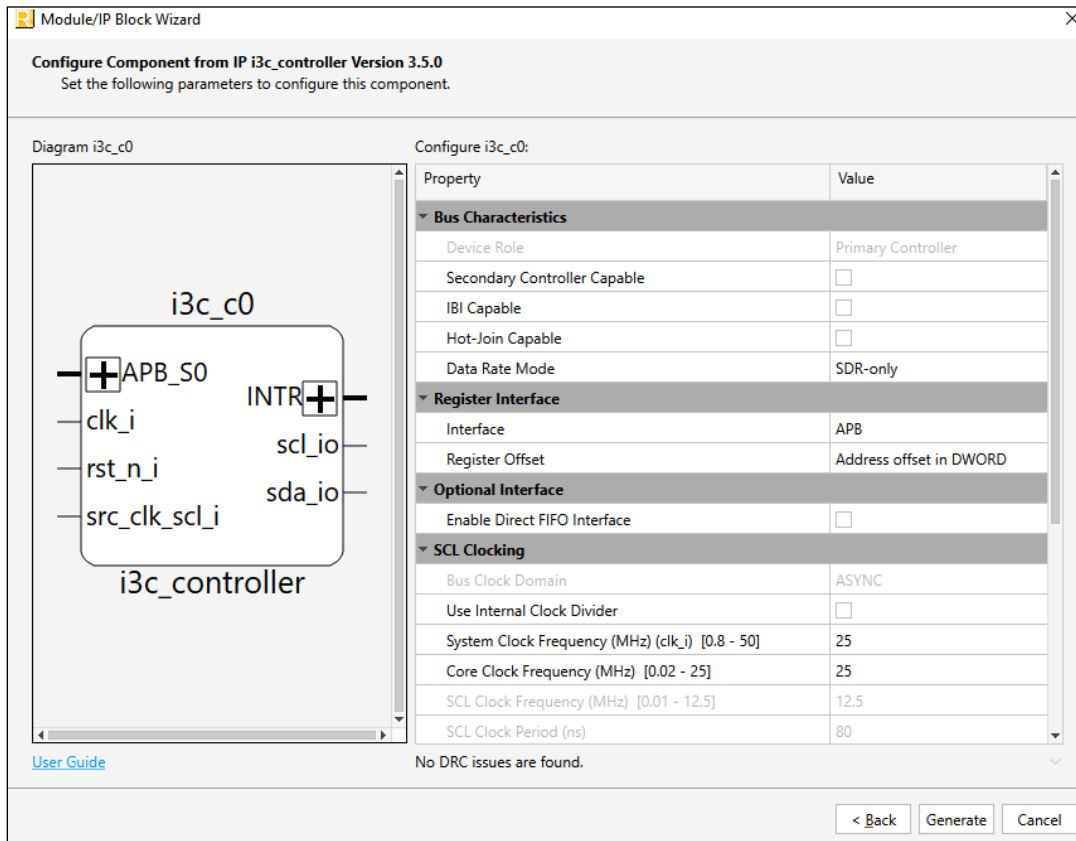

Figure 7.2. IP Configuration
- In the next **Module/IP Block Wizard** window, customize the selected I3C Controller IP using drop-down lists and check boxes. Figure 7.2 shows an example configuration of the I3C Controller IP. For details on the configuration options, refer to the IP Parameter Description section.